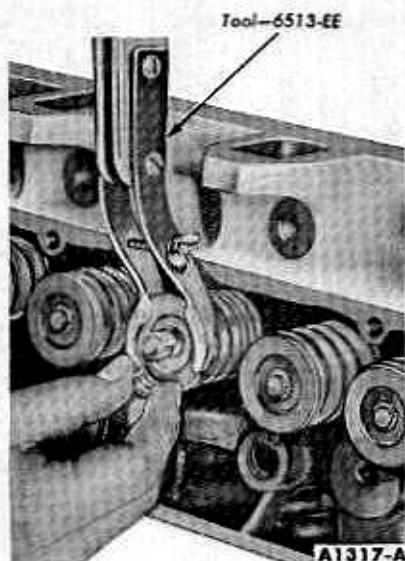

FIG. 19—Valve Spring Retainer Locks Removal or Installation
2. Compress the valve springs (Fig. 19), then remove the spring retainer locks, and release the spring.
4. Compress the spring and install the retainer locks (Fig. 19).